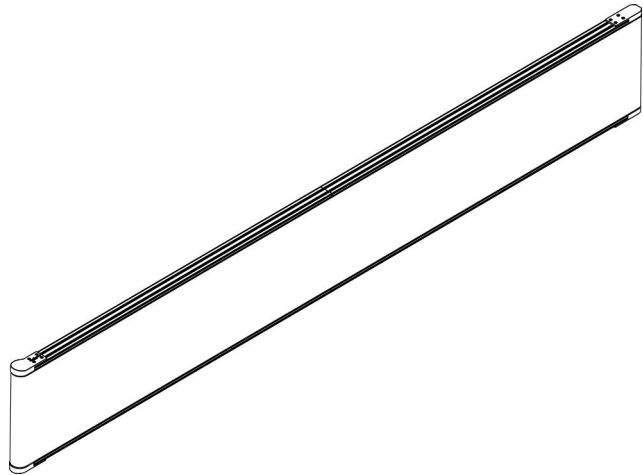

Fig. 14: Conveyor set up
- 1.** → Position the left and right conveyor halves on their sides. (Fig. 14)